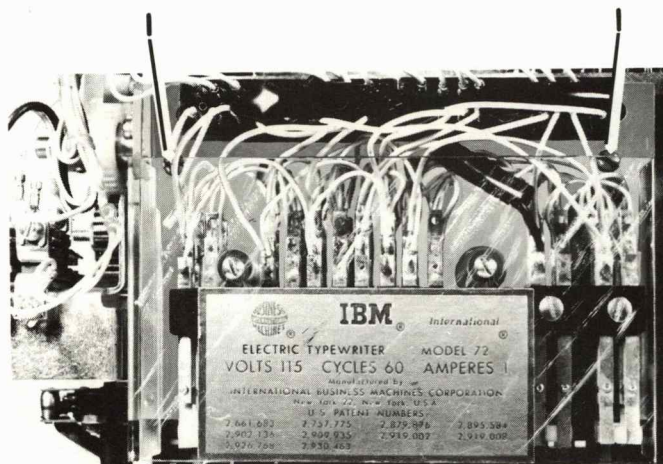

FIGURE 27. Differential Plate Removal
- \* 3. Remove the two screws (#1, Figure 27) that hold the contact plate to the frame. Remove the contact assembly, holding it to the front with a rubber band.